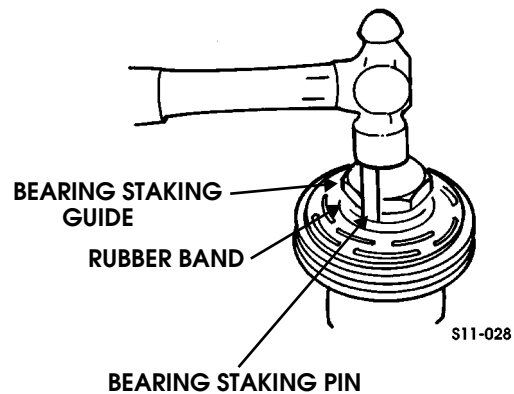

Figure 11-57: Bearing Staking Guide and Pin
3. Place bearing staking guide and bearing staking pin in the hub bore. Shift the rotor and bearing assembly on the support block to give full support of the hub under the staking pin location. A heavy-duty rubber band may be used to hold the stake pin in the guide, and the stake pin should be properly positioned in the guide after each impact on the pin (Figure 11-57).